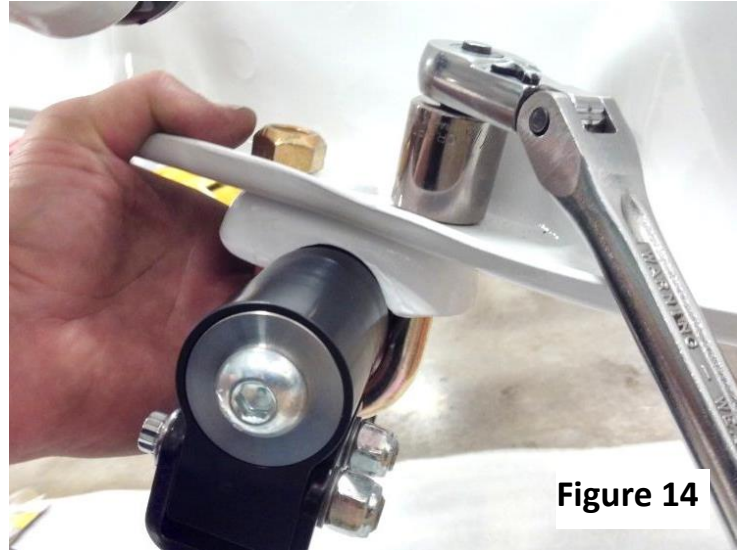

Figure 14
11. Install the QA1 lower control arm with the supplied U-bolts. The **front (only)** alignment dowel on the cross member must be seated into the front cross shaft. The rear alignment dowel does not need to line up with indent in the cross shaft. Torque the nuts evenly to 70 lb. ft. See **Figure 14**.